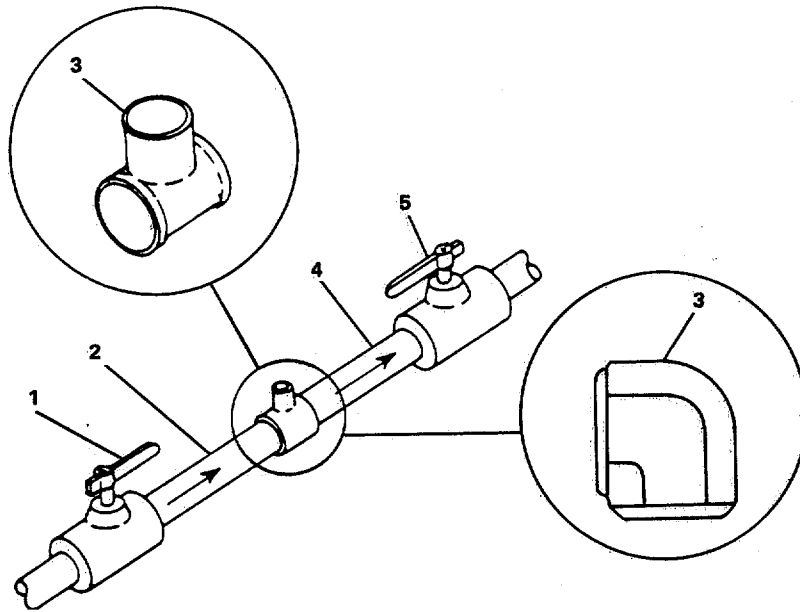

FIGURE 3-206. Repair Copper Solder Adapter Joints (Typical).
- (1) Remove warning tags.
- (2) Operate system; refer to TM 55-1905-223-10.
- (3) Open inlet shutoff valve (1) and outlet shutoff valve (5).
- (4) Check for leaks in system and reseal connections as necessary.
**3-218. Replace/Repair Copper Solder Adapters/Connectors. (Figure 3-206)**